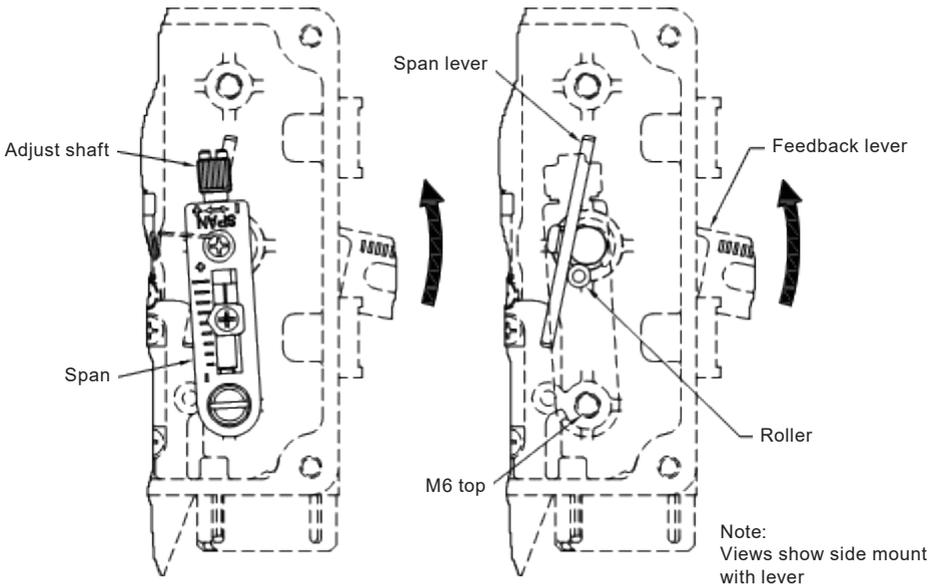

Fig. 17 Span Installation (side = RA, central = DA)
Central mount - If the actuator axis moves down when input signal is increased, assemble the "Span" to lower M6 Tap hole like Fig. 17 (on the next page). (DA)
- 2) Side mount - If the actuator axis moves up when input signal is increased, assemble the "Span" to lower M6 Tap hole like the below Fig. 17 (RA).
- Locate the M6 Thread screw (Fig. 16) and remove the screw from the M6 Tap (Fig. 17). The span lever will no longer be attached. Take care to limit the deflection of the Span Spring (Fig. 3, Item 15) when the span lever is decoupled from the M6 Tap.
- Ensure the roller (Fig. 16) is located on the right side of the span lever (Fig. 17) when viewing the positioner from the front.